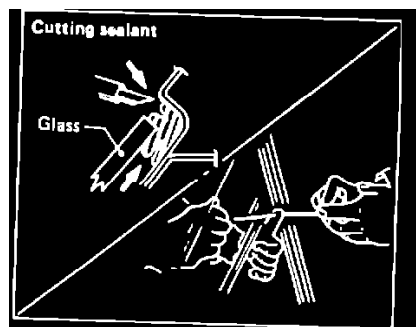

FIGURE 1
3. Remove the windshield (Figure 1). If necessary, use an electric hot knife (Kent Moore Hot Knife J-24709-1 or equivalent) to cut the adhesive material from the glass.